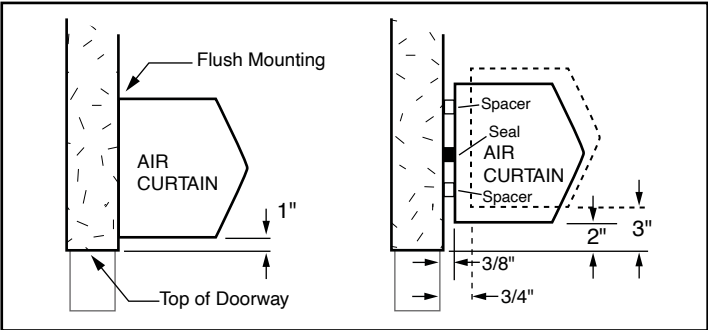

Figure 3
- For optimum performance, the bottom of the air curtain (discharge nozzle) should be no more than 1" above the top of the door opening with the air curtain(s) mounted flush to the wall. If the air curtain must be mounted higher, it must be spaced out from the wall 3/8" for every inch the air curtain is above the door opening. **See Figure 3.** For optimum protection, any void between the air curtain and the wall should be sealed along the full length of the air curtain.